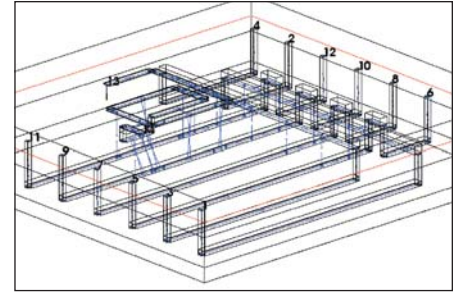
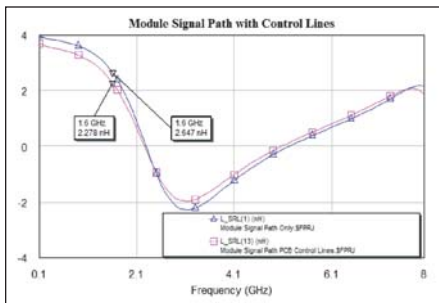

Figure 13 · ACE results show extensive coupling between the signal path and control lines (reverse view from Figure 12 for ease of visualization).
Figure 14 · Effective signal path inductance—the module control line coupling causes parasitic reduction in signal path inductance.
Form factors and space severely constrain interconnect routing for power amplifier (PA) modules and front-end modules for handset applications. The ACE methodology is ideally suited to handle the combination of signal path, control lines, and bias interconnects. The interconnect from PA to coupler needs a few nH of inductance for a better match, so the user can nominally design this particular ACE model (Figure 12) and then later in the design flow, reassess the impact of the PA control lines (Figure 13). Before adjusting the interconnects, the impact can be viewed (Figure 14) and addressed by modifying either the signal path or the control lines.